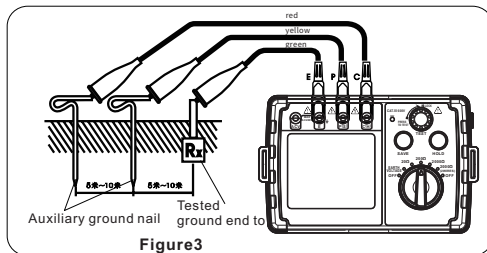

Figure3
- a. pound P and C ground nails deeply into the ground, line them and equipment to be measured in a line (straight line) with distance 5 to 10 meters. The connection method is shown in Figure 3: